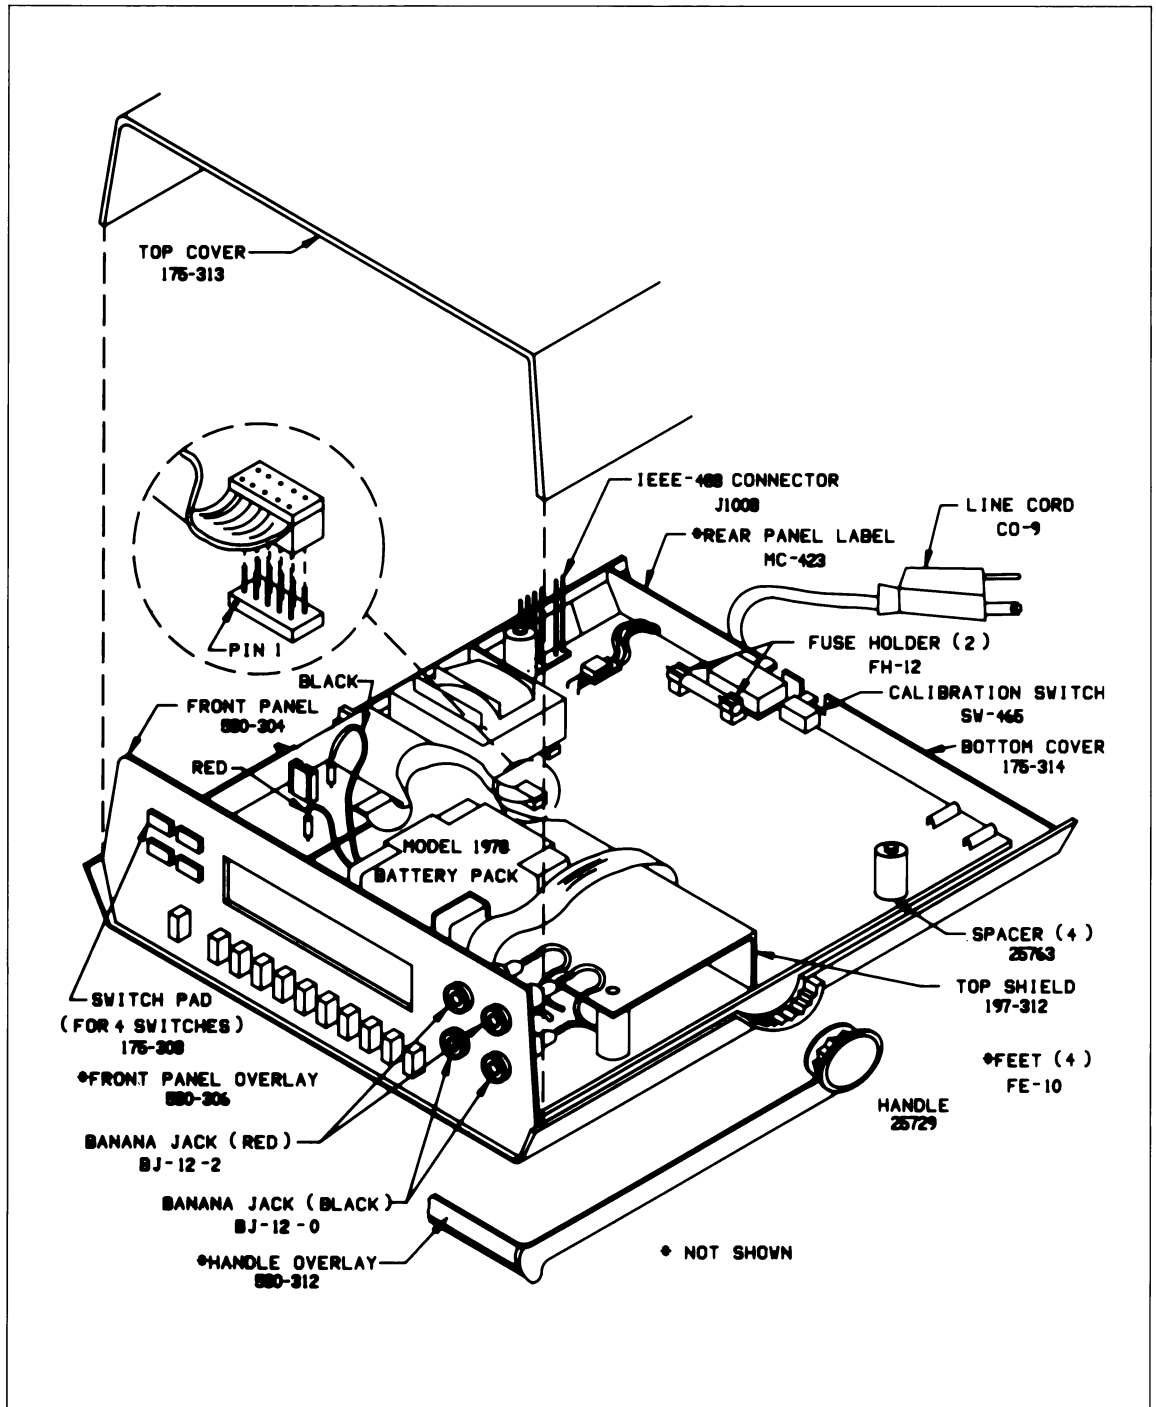

Figure 1-1. Model 580 Exploded View
Refer to Figure 1-1 and perform the following procedure to install the battery pack:
4. Position the charging circuitry board on the shield as illustrated in Figure 1-1 and secure it to the top of the shield using the two supplied screws. The screws are routed through the bottom of the shield and up into the board fasteners.
5. Place the battery pack in the mounting bracket and position on the shield as illustrated in Figure 1-1, making sure the red and black battery lead wires face the front of the instrument. Route the two screws through the bottom of the shield then into the bracket and tighten.
8. Connect the ribbon cable from the battery board to the male connector J1009 (marked BAT) on the mother board. Be sure correct orientation is observed (see Figure 1-1).
The line fuse is located internally in the Model 580. For exact fuse location refer to Figure 1-1. To replace the fuse proceed as follows: